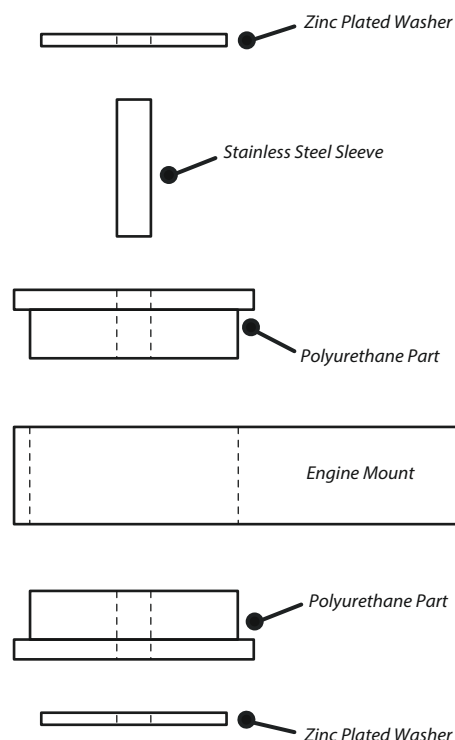

Figure 1
5. Push the second polyurethane part into the bore of the mount from the opposite side, as shown in figure 1.